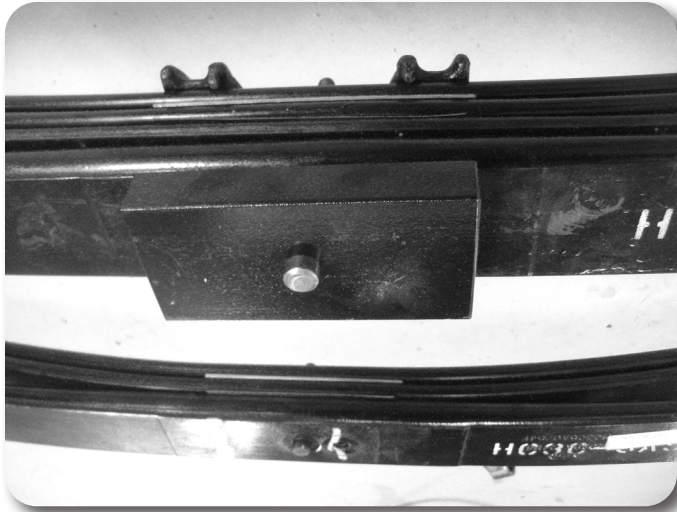

Figure 22
14. Assemble the leaf spring as shown. Use the 1" bolt on block, overload, add-a-leaf, main leaf pack, and top mounted overload springs if equipped (not shown), and upper u-bolt plate. Tighten center pin nut to 20 ft-lbs. **Figure 22**
17. Attach 1" bolt on block to the bottom of the main leaf pack with new center pin. Tighten to 20 ft-lbs. See Fig 22 above.